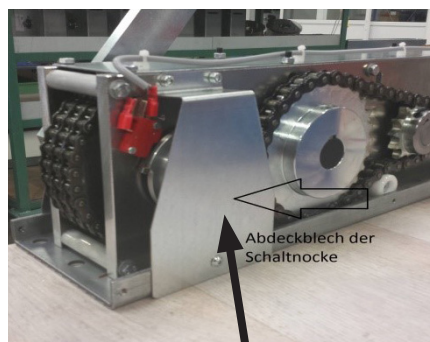

Fig. 1
2. Remove the cover plate on the switching cam (see figure 1)